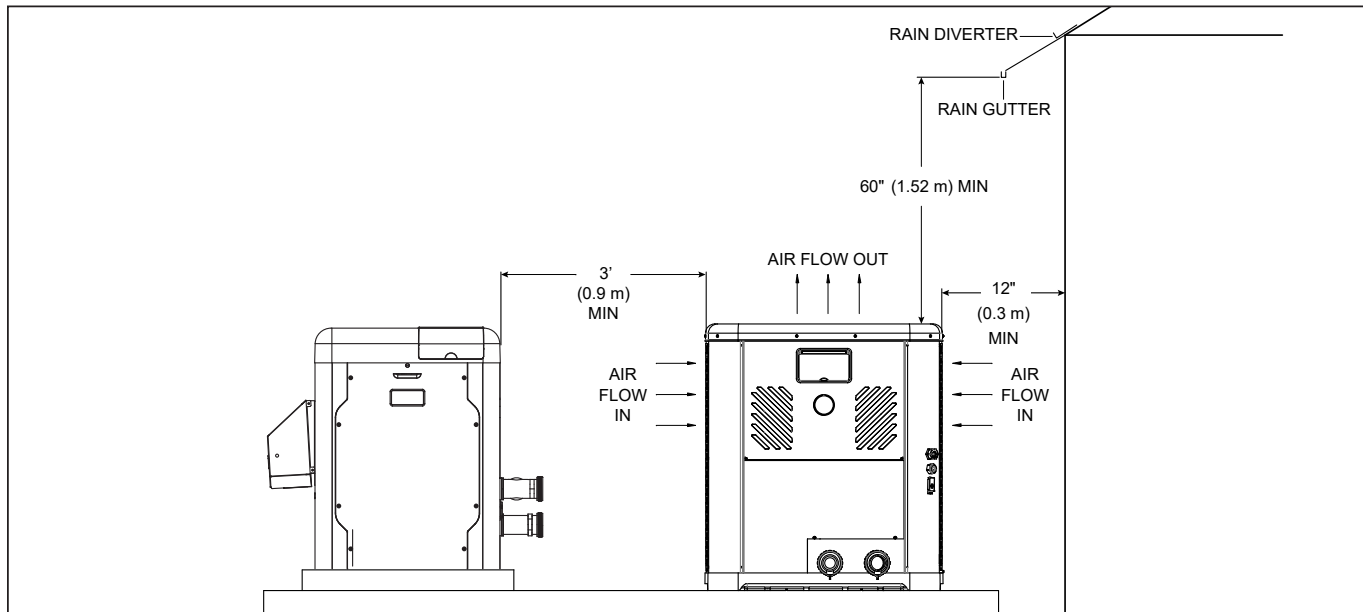

Figure 2. Installation Clearances
Updated Figure 2, adding a "rain diverter" and a "rain gutter". Added Figure 8 to show "Ground Lug" on the side of the heater. Revised breaker size callouts in Table C. Updated Section 12. Program Menu info to reflect the correct time to press the keys, as well as Figure 30. Added "Water pressure switch" and "Water Pressure switch adjustment" information on page 30. Updated Figure 136 with new information regarding "Wiring Valve Actuators". Updated information regarding "Variable Speed Pump Control Wiring". Updated Figure 140 with information regarding "24VAC Relay Wiring". Updated Table G with information about "AquaStar VSP". Updated Figure 152 and Figure 153 with information regarding "Pool Light Wiring" and "Air Blower Wiring" accordingly. Updated Figure 156 regarding "External Device Wiring to Auxiliary Output". Updated Figure 159 regarding "Solar Heater Components in the Piping". Updated Illustrated Parts List illustration, removing "Control Cover" call out and adding new call outs for "Drain Plug", "Front Cover Panel", and "Badge for Rheem, Raypak, and Ruud". IPL list updated with info regarding these components.
- This unit features an 'up-flow' discharge for quiet operation. Air is pulled up through the evaporator coil and discharged through the top grill. Allow at least 5 ft (1.5 m) clearance above the unit for unrestricted air discharge. Do NOT install the unit under a porch or deck. Refer to Figure 2 for installation clearances. Allowing cold discharge air to recirculate back into the evaporator coil will greatly reduce the unit's heating capacity and efficiency. To minimize water piping, locate the unit as close as possible to the existing pool pump and filter.